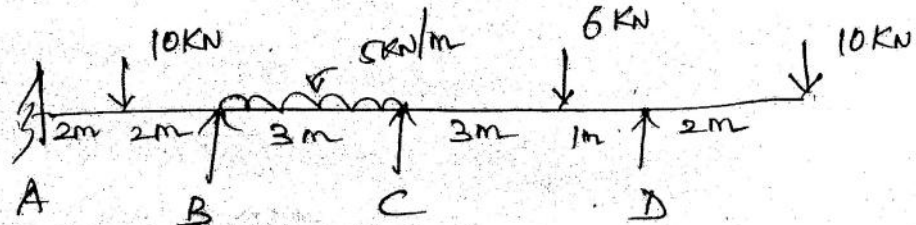

Figure-9
9. Analyse the continuous beam shown in figure-9 by stiffness matrix method.  $EI$  is constant.